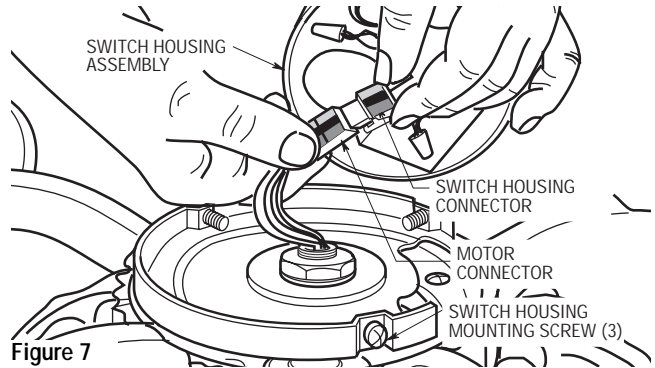
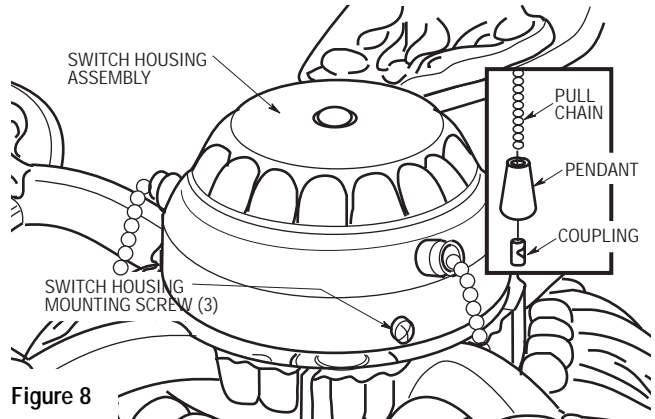

Figure 7
Figure 8
- 12. Engage the connector of the switch housing assembly with the motor connector (Figure 7). The two connectors are keyed and color-coded and must be mated correctly (color-to-color) before they can be engaged. Make sure the connector latch closes properly.
- 13. Remove the three switch housing mounting screws (Figure 7) from the switch housing plate. Position the switch housing assembly on the switch housing plate and align the holes in the switch housing assembly with the holes in the plate. Secure the switch housing assembly by installing the three mounting screws (Figure 8).
- 14. Slip the longest pull chain through the hole in the pendant (supplied) (Figure 8). Secure the pendant by snapping the coupling (supplied) onto the end of the chain. Secure the second pendant (supplied) to the short chain in the same manner as instructed above.